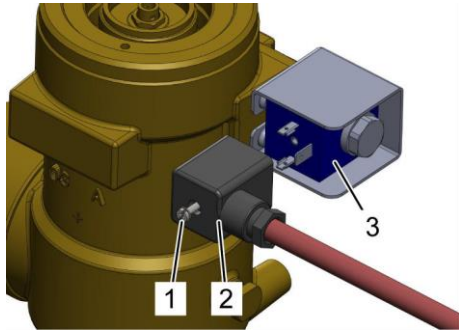

Fig. 173: Check the coil
1. ➤ Unscrew screw (Fig. 173/1) on the plug and pull off plug (Fig. 173/2).
2. ➤ Measure the electrical resistance of the coil (Fig. 173/3) with a resistance measurement device. The target value should be $96 \text{ Ohm} \pm 10 \%$.
Ensure that the plug is not connected on the coil (Fig. 173/3) of the valve.